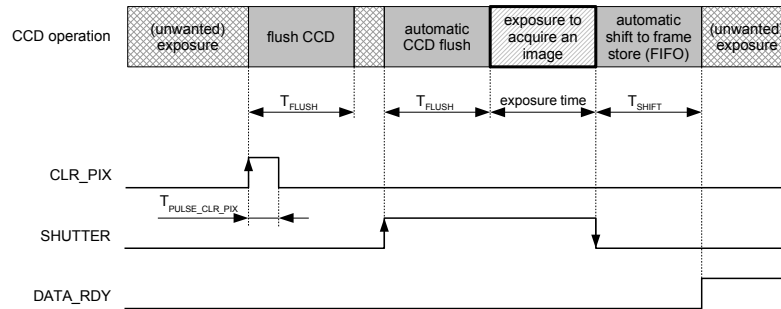
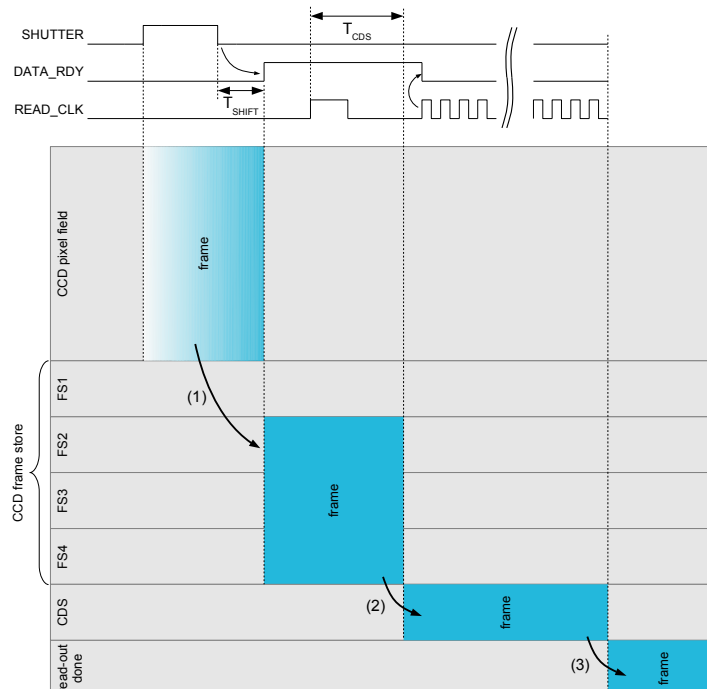
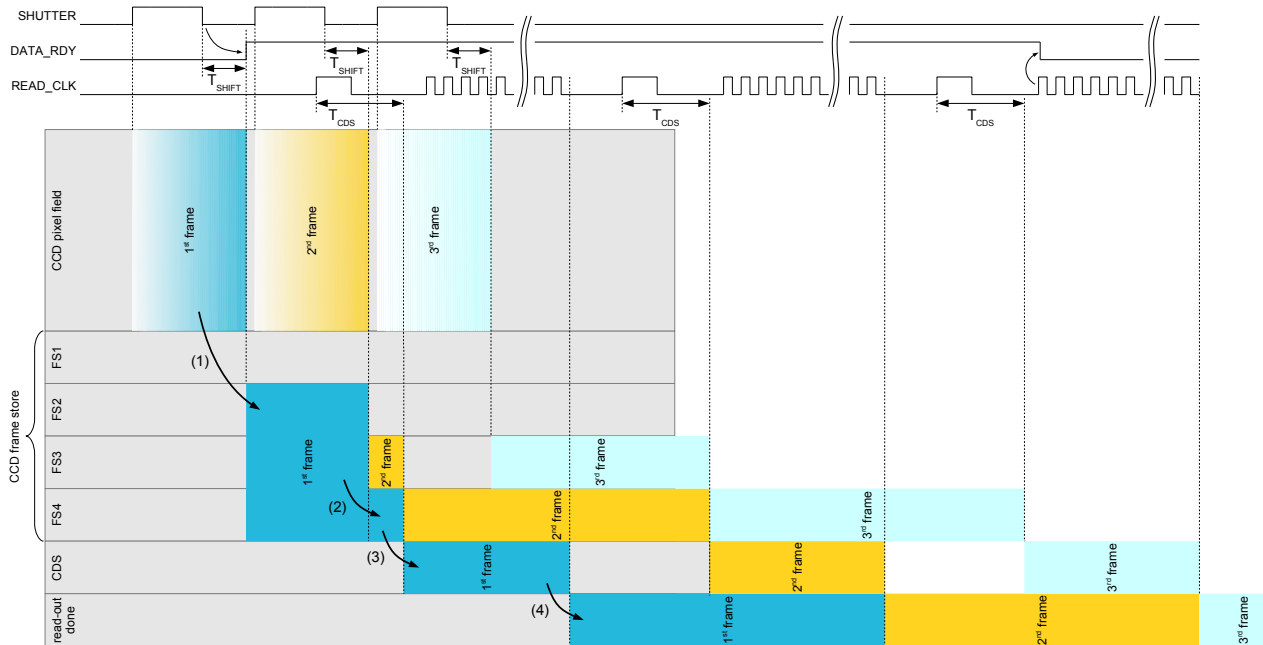
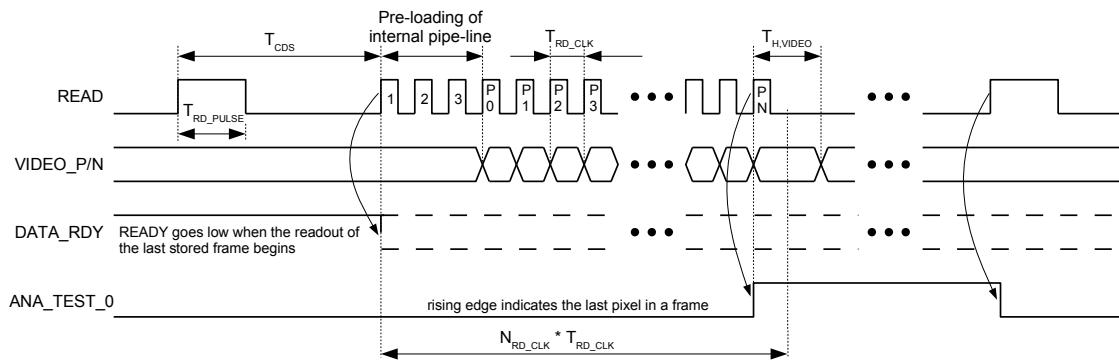

Figure 9: Image acquisition timing
Figure 10: Example of single-frame acquisition and read-out
Figure 11: Multi-frame acquisition and read-out
Figure 12: Image readout timing of one frame
The acquisition of a frame is controlled by a pulse on the SHUTTER pin (see Figure 9). The rising edge triggers the internal flush operation to erase the CCD from any unwanted electrons prior to the exposure. The exposure starts automatically after the flush operation is completed. The CCD collects electrons thereafter as long as the SHUTTER pin is high. Upon the falling edge of SHUTTER, the charge collected in the CCD pixel field is shifted to the CCD frame store which is an area which is not photo-sensitive (see (1) in Figure 10). As soon as the frame is ready for read-out, the signal DATA\_RDY goes high. The image is ready to be readout as described in section 5.4.
Up to 4 images can be acquired and stored in the frame store in a fast sequence without intermediate read-out. The frame store is organized in 4 frame store elements (FS1-FS4), thereby each frame store element can store one frame/image. The first captured image initially occupies 3 frame store elements as for a single-frame acquisition (see section 5.2 and Figure 10). epc901 automatically detects a multi-frame acquisition when detecting the second SHUTTER signal without prior read-out. Upon the second shutter, the first image is shifted to a single frame store element (see (2) in Figure 11). The frames are shifted from the pixel field to the frame store as a FIFO: The first captured image is the first one to read out. The read-out is described in more detail in section 5.4. As soon as 4 frames have been captured without prior read-out, at least one read-out has to be issued prior the next shutter in order to make FS1 available again. Excessive shutter pulses are ignored.
The first pulse of a read sequence applied to pin READ is a Read Pulse and must have a duration of  $T_{RD\_PULSE}$ . Upon this Read Pulse, the last frame in the frame store is converted pixel-wise from charge to voltage. This operation is called correlated double-sampling (CDS) and lasts for the time  $T_{CDS}$ . Following the Read Pulse, respecting a delay of at least  $T_{CDS}$ , Read Clock pulses are applied to the READ pin in order to transfer the pixel voltages to the VIDEO\_P/N pins. The first 3 Read Clock pulses, designated with 1, 2 and 3 in Figure 12, are used to pre-load the pipeline. Thus the first 3 pixel voltage values on VIDEO\_P/N can be ignored. The subsequent Read Clock pulses, designated with P0 ... PN in Figure 12, transfer the pixel voltage values through the video amplifier to the VIDEO\_P/N pins.
The signal DATA\_RDY remains high as long as there is at least one frame stored in the CCD frame store. If no more frames are stored except the one that is currently read out, the signal DATA\_RDY goes to low state on the first positive Read Clock edge (see Figure 12). If no frame is stored, the chip does nothing upon a Read Pulse.
- The following time periods shall never overlap in any multi frame acquisition or by parallel reading during exposure:  $T_{FLUSH}$  with  $T_{CDS}$  and  $T_{SHIFT}$  with  $T_{CDS}$ . Refer for these signal to Figure 9 and Figure 12.